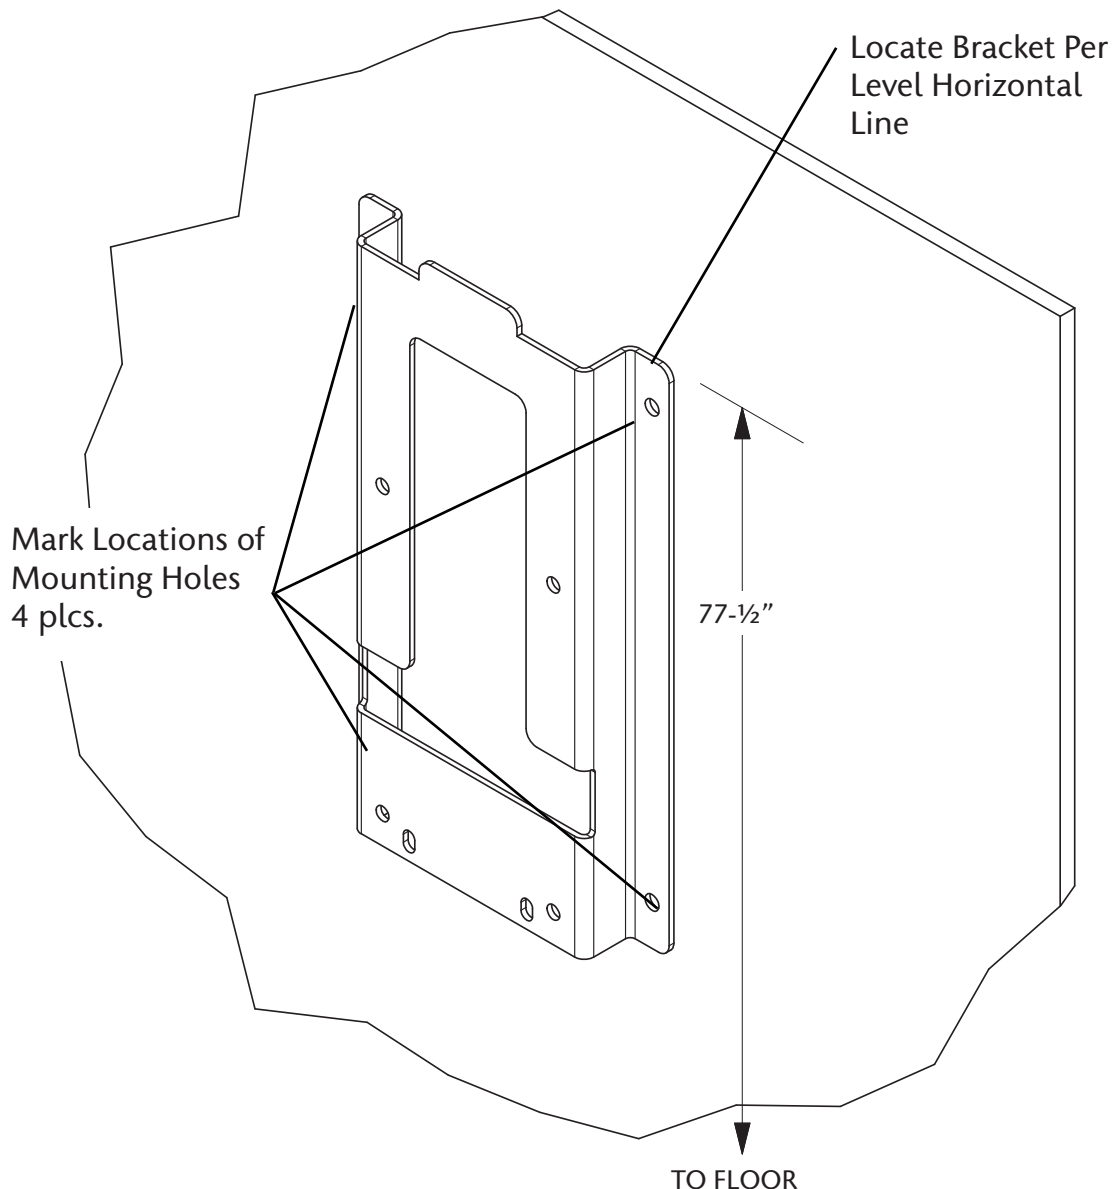

Figure 2
A bracket mounting height of 77-½" allows for adequate clearance beneath manifold when utilizing standard "H" size cylinders (55" tall overall). Bracket mounting height should be increased proportionally if taller cylinders are to be used. See Figure 2
5. Place bracket flat against wall as shown in Figure 2 and align top of bracket with level horizontal line. Vertical center line of bracket will be vertical center line of installed manifold. Mounting top of bracket at 77-½" height will net a 65-¾" height from center of header to finished floor.